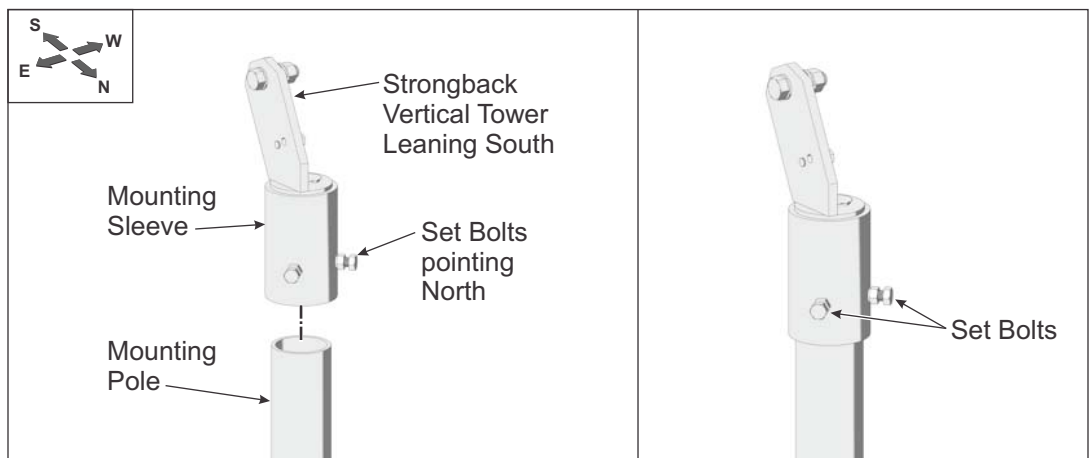

Figure 1-1: Installing the Mounting Sleeve
- C. Secure the Mounting Sleeve by tightening the two 3/8" Set Bolts. **Torque each Set Bolt to 32-34 ft.-lbs.** (See Figure 1-1)